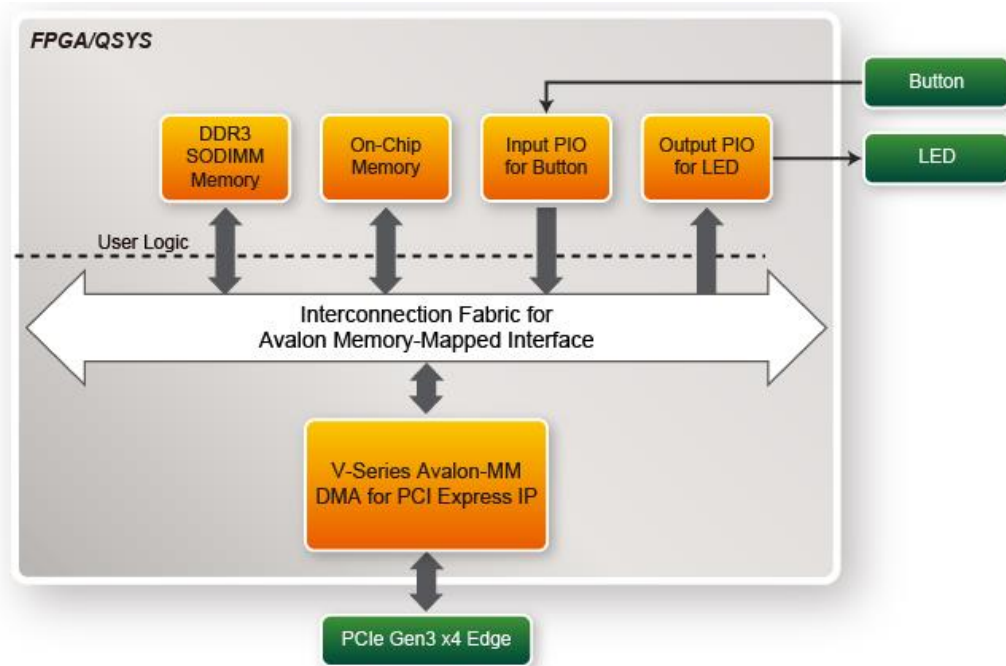

Figure 4-20 Hardware block diagram of the PCIe DDR3 reference design
**Figure 4-20** shows the system block diagram in the FPGA system. In the Qsys, Altera PIO controller is used to control the LED and monitor the Button Status, and the On-Chip memory and DDR3 SODIMM Memory are used for performing DMA testing. The PIO controllers, the On-Chip memory and DDR3 SODIMM Memory are connected to the PCI Express Hard IP controller through the Memory-Mapped Interface.